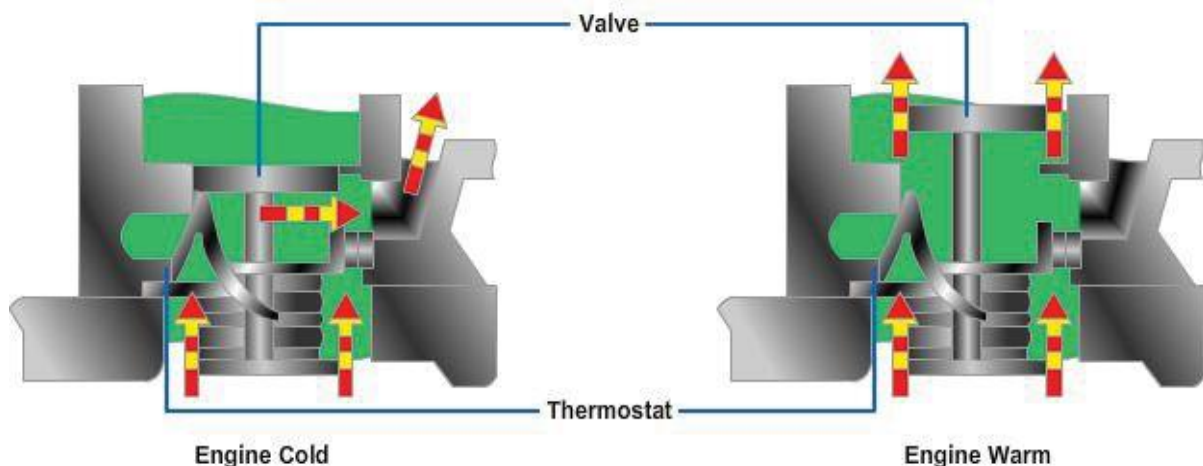

Figure 6-7 – Bypass Thermostat.
- Another bypass system has a blocking-bypass thermostat (*Figure 6-7*). This thermostat operates as previously described, but it also has a secondary, or bypass, valve. When the thermostat valve is closed, the circulation to the radiator is shut off. However, when the bypass valve is open, coolant is allowed to circulate through the bypass. As the thermostat valve opens, coolant flows into the radiator and the bypass valve closes.